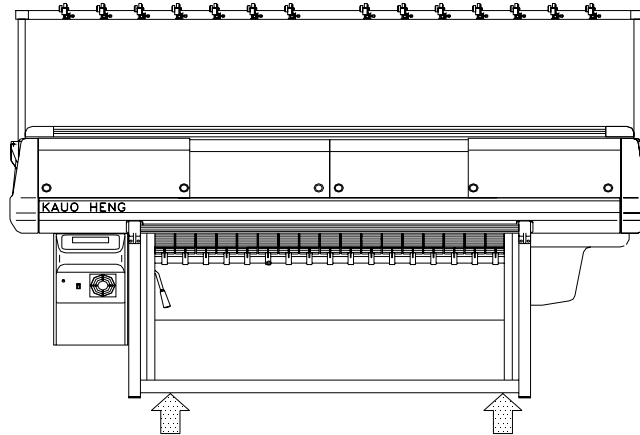

Fig.1-1 Correct position of jacking the machine
② Fig.1-1 illustrates the correct position of jacking while moving the machine. It is very important when moving the machine. The yarn carrier rail shall never be used to push the machine since it will distort the rail.